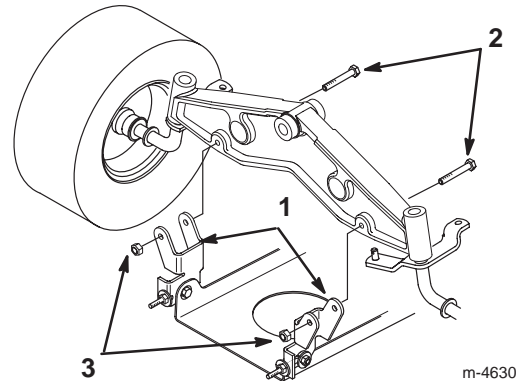

Figure 42
9. Install the mower pivot mount brackets to the front axle with bolts and locknuts (Fig. 42).